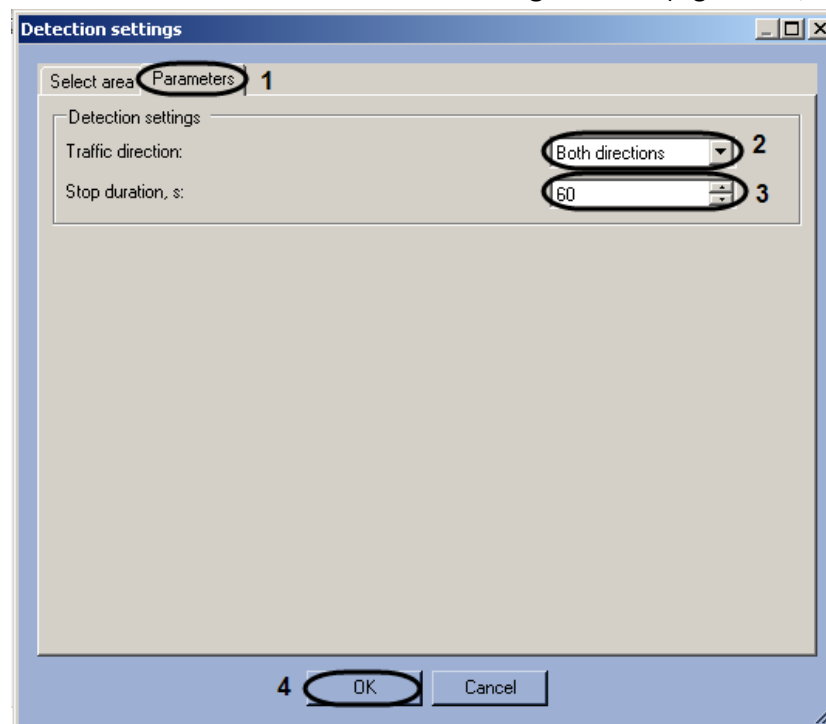

Fig. 6.3—6 Configuring the Stopped cars detector module parameters
- 4.2. In the **Traffic Direction** drop-down list select the direction of the vehicles moving towards the camera (Fig. 6.3—6, 2).
- 4.3. In the **Stop duration, s** field set the minimal stop duration in seconds using the up and down buttons (Fig. 6.3—6, 3).
5. Click OK (Fig. 6.3—6, 4).